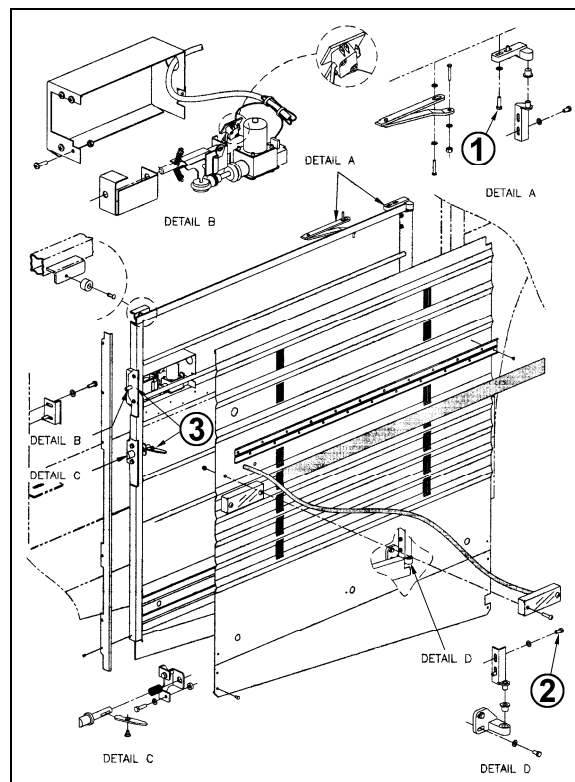

FIGURE 35: ENGINE COMPARTMENT R.H. SIDE DOOR 18635
1. Loosen the bolts, (1, Figure 35) holding the hinge to the vehicle structure to shift the door "IN or OUT" and "UP or DOWN".
2. Loosening the bolts (2, Figure 35) allows the door to be shifted "LEFT or RIGHT" and "UP or DOWN".
To adjust the latch mechanism (3, Figure 35) and the striker pin: